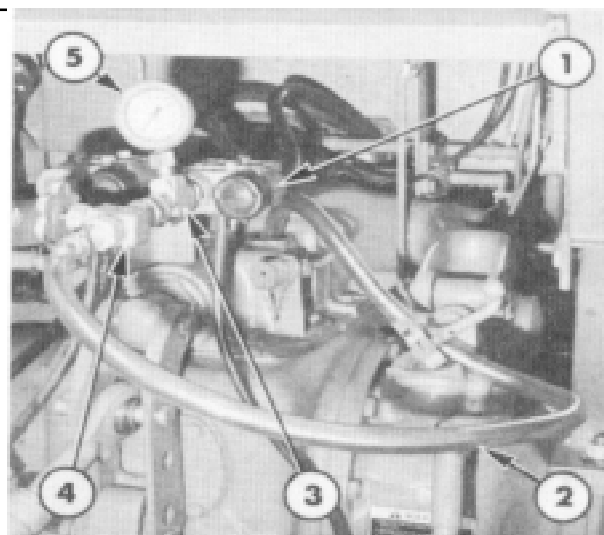

Figure 17
2. Figure 17 Shows Pressure Testing Detent Regulating Valve.